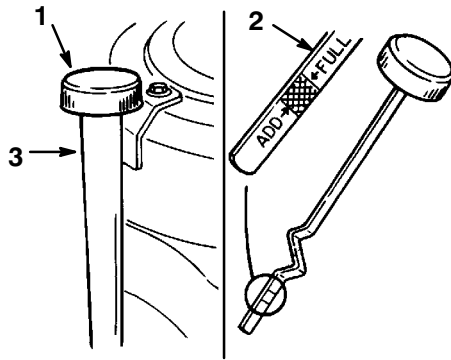

Figure 26
2. Clean around the oil dipstick (Fig. 26) so dirt cannot fall into the filler hole and damage the engine.
3. Unscrew the oil dipstick and wipe the metal end clean (Fig. 26).
4. Slide the oil dipstick fully into the filler tube, do not thread onto tube (Fig. 26). Pull the dipstick out and look at the metal end. If oil level is low, slowly pour only enough oil into the filler tube to raise the level to the "FULL" mark.
5. Slowly pour approximately 80% of the specified oil on page 25, into the filler tube (Fig. 26). Now check the oil level; refer to Checking Oil Level, page 25. Slowly add additional oil to bring to "FULL" mark on dipstick.